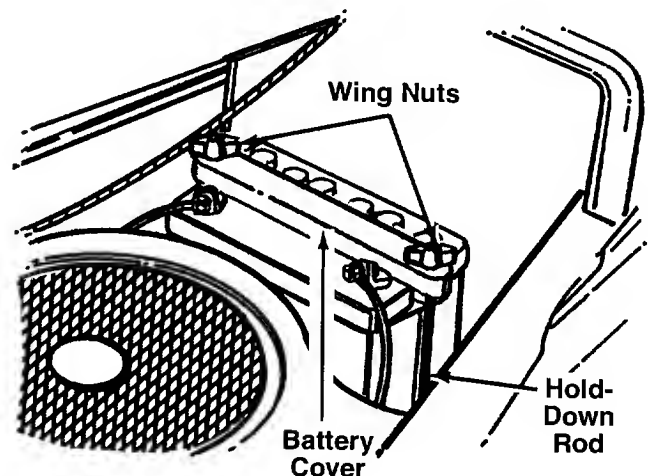

FIGURE 12.
1. Lift the hood of the tractor. Remove the wing nuts from the hold-down rods which secure the battery cover to the battery. See figure 12.
4. Place the battery cover in position over the hold-down rods. Secure with wing nuts. See figure 12.